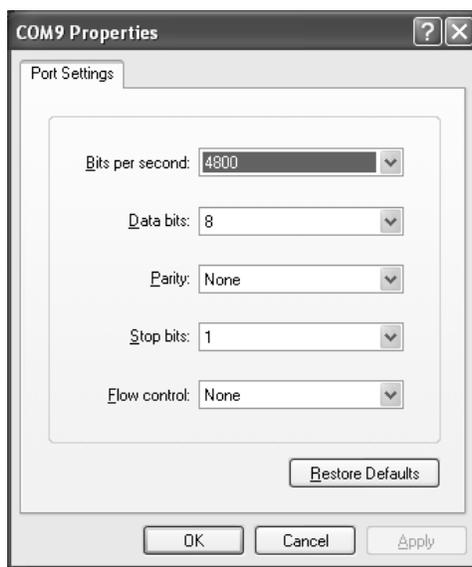

Figure 79. COM 1 Properties window
- Set the bits-per-second to 4800 if connected to a Converter or 38400 if connected to a Combiner (see Figure 79). Using the drop-down menus, change the Data bits to eight, Parity to None, Stop bits to one, and Flow control to None, as shown below. Click OK.